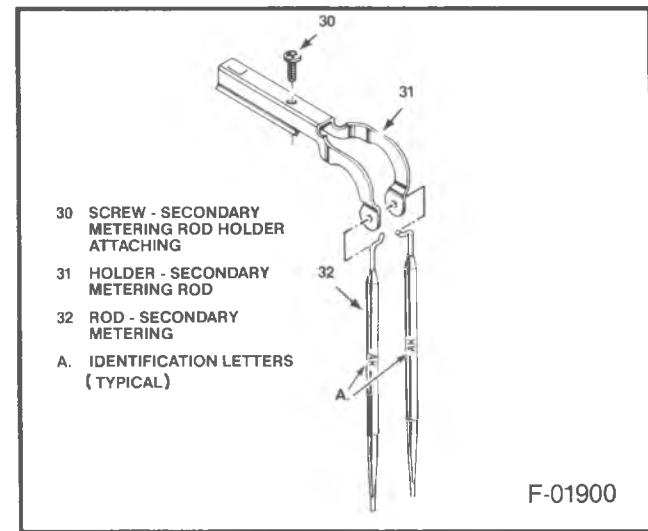

Figure 13 -- Secondary Metering Rods and Holder
- ➡➡ Remove or Disconnect (Figure 13)
- Secondary metering rod holder attaching screw (30).
- Metering rod holder (31), and metering rods (32).